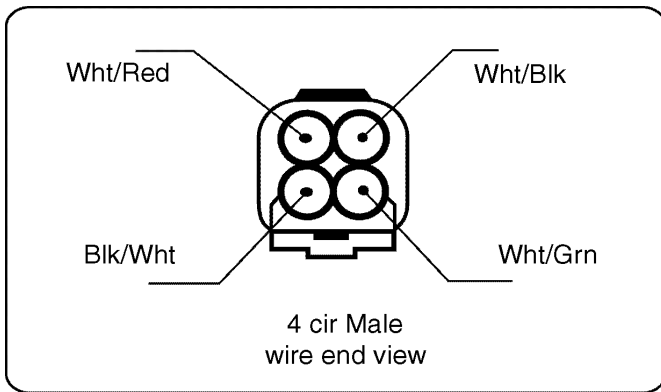

Figure 2
- 5. Insert each of the wires into the circular opening of the connector housing as shown in Figure 2. The pins will only insert and latch into position in one orientation. So, if the pin doesn't easily insert, rotate it and try again.